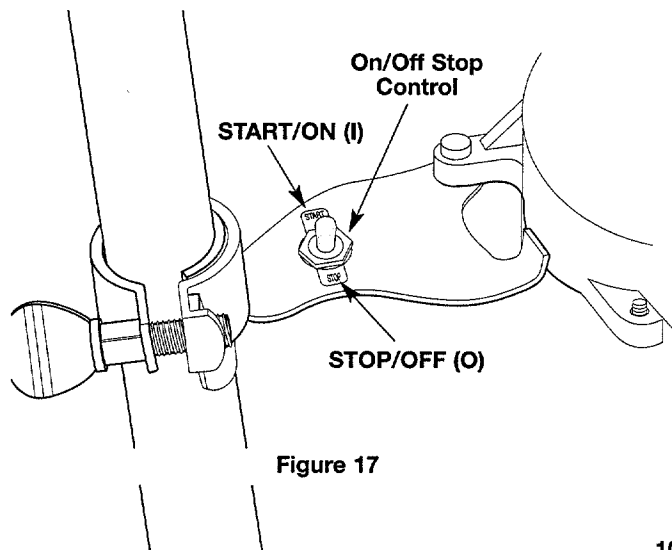

Figure 17
2. Put the On/Off Stop Control in the START (I) position. See Figure 17.
**NOTE:** Choking is unnecessary when starting a warm engine. Put the On/Off Stop Control in the START (I) position and start in PARTIAL Choke position (B |↘| ). See Figures 17 and 18.
2. Put the On/Off Stop Control in the STOP (O) position. See Figure 17.